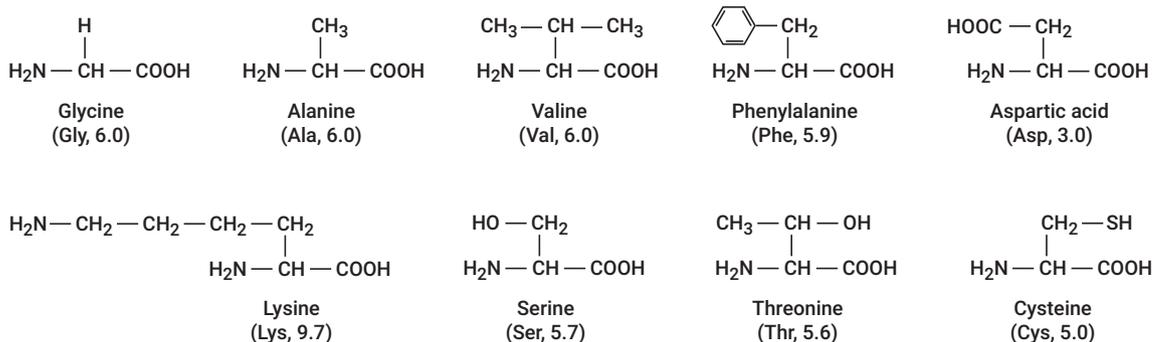

FIGURE 16.2.4 Common amino acids in proteins and their isoelectric points
- 8 a In order to identify an amino acid, Q, a chemist ran electrophoresis experiments on it using buffers at pH 7.0, 5.0 and 3.0. The developed electrophoresis strips are shown in Figure 16.2.3a. Deduce which of the amino acids in Figure 16.2.4 that Q is most likely to be. Explain your reasoning.
- b Electrophoresis experiments were run on another amino acid, T, using buffers at pH 11.0, 6.0 and 3.0. Results are shown in Figure 16.2.3b. Identify T from the amino acids in Figure 16.2.4. Explain your reasoning.
- 9 a To identify the amino acids in a mixture, a chemist ran an electrophoresis experiment using a buffer of pH 6.0. The result is shown in **Figure 16.2.5a**. If the only possibilities are the amino acids in Figure 16.2.4, **identify** as many spots (labelled P, Q, R, S) as you can. (You will not be able to identify them all from this one experiment.)